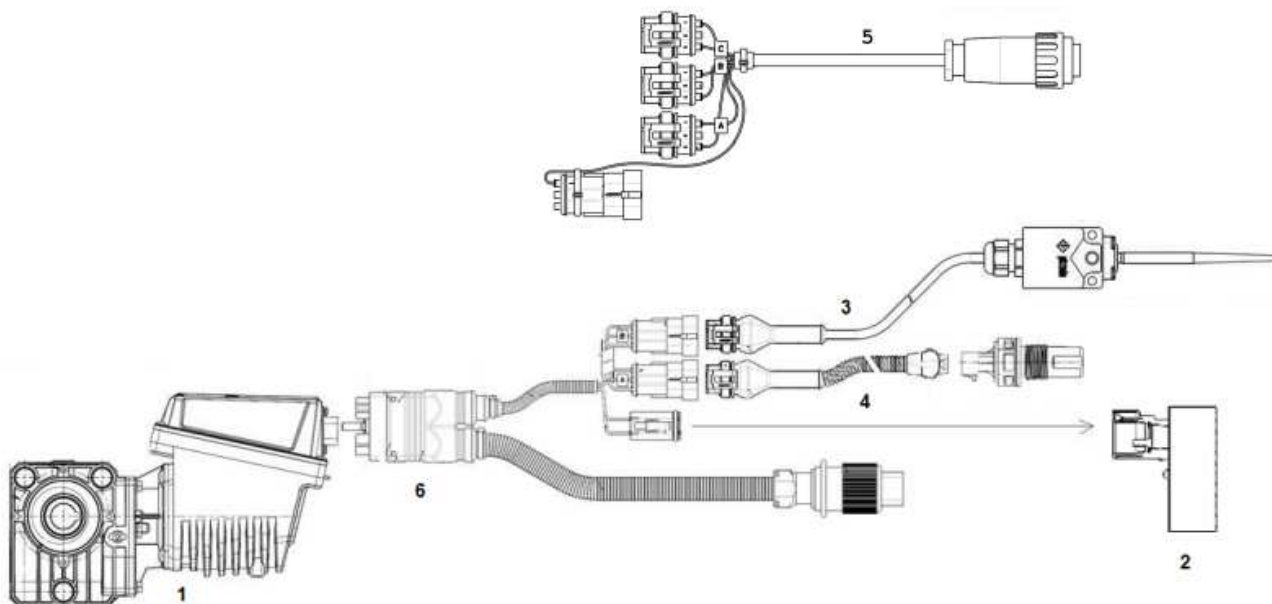

Figure 1-1 Main components of the PCS W1 Kit
1.2.2 Functional blocks (Ref. Fig. 1-1)